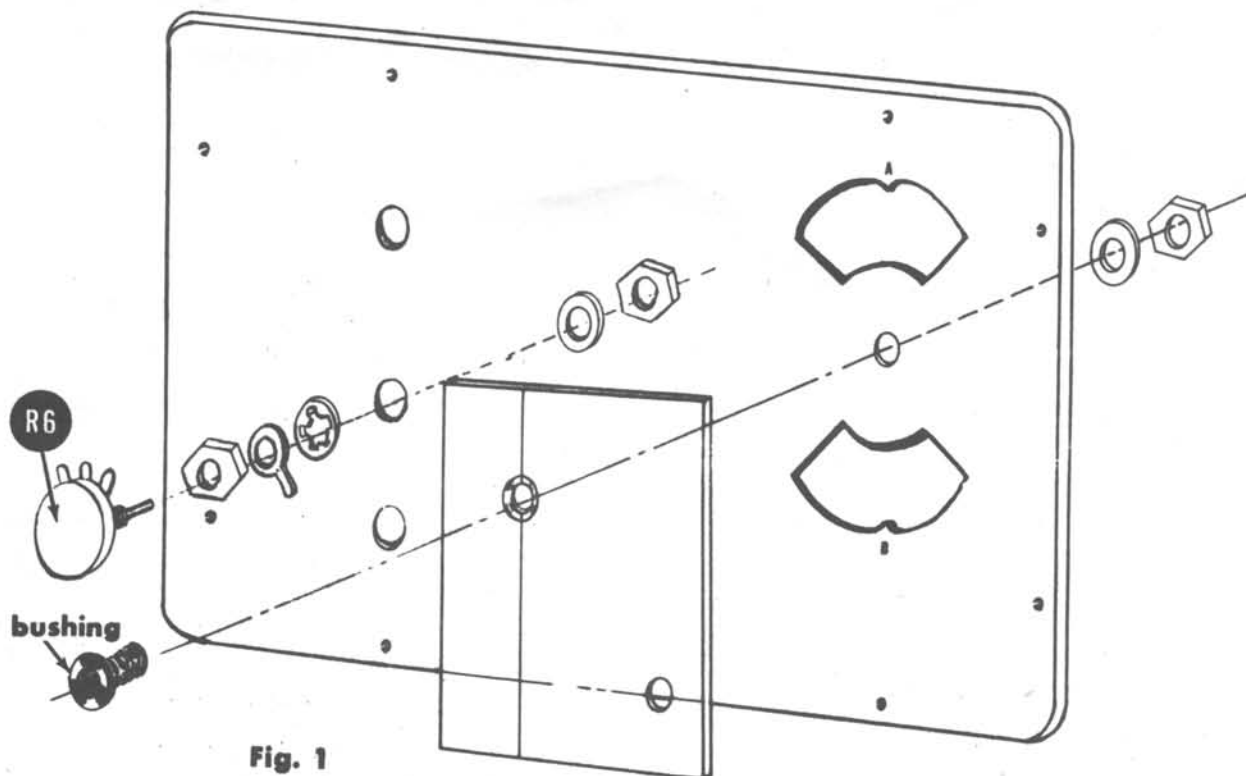

Fig. 1
- ( ) Fig. 1. Mount the plexiglass window to the panel with the bushing, 1-3/8 flat washer, and 1-3/8 hex nut. Note that the hole in the window used for mounting is counterbored to accept the bushing and that the panel lamp hole in the window is at the lower right in the rear view. Note also that there is a scribed hairline on the back surface of the window which passes through the center of the mounting hole. Before tightening the nut, line up the window so that both indicating points A & B on the panel lie directly over the hairline.
- ( ) Fig. 1. Mount the RF FINE potentiometer R6 (200Ω) to the panel, using 2-3/8 hex nuts, 1-3/8 ground lug, 1-3/8 lock washer, and 1-3/8 panel washer.